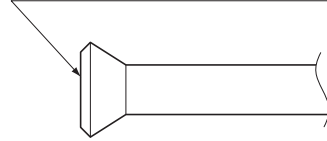

Fig. 13
- When connecting the flare nut, coat the flared inner surface only with ester oil or ether oil, rotate three or four times first, then screw in. (Refer to Fig. 13)